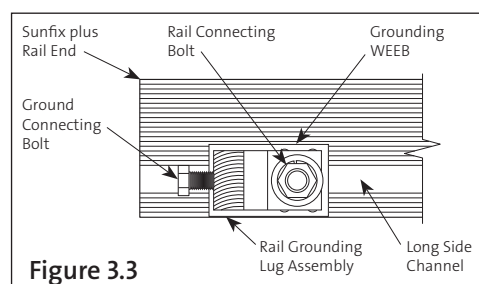

Figure 3.3
- 3.3. At the end of each row attach the Rail Grounding Lug Assembly ⑦ similar to steps 2.1 and 2.2. Be sure to install Rail Grounding Lug Assembly parallel to rail, ensuring the teeth of the grounding WEEB firmly "bite" into rail. Torque rail-connecting bolt to 12 ft-lbs using general purpose anti-seize compound. After inserting grounding wire, torque ground-connecting bolt to 7 ft-lbs. Refer to **Figure 3.3**.